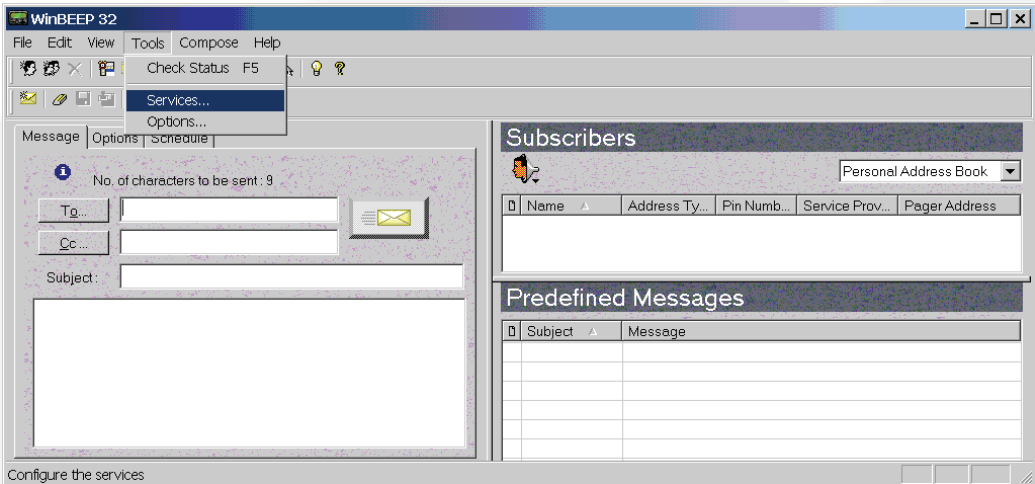

FIGURE 15-3. WINBEEP MAIN WINDOW
Install WinBEEP 32 using the installation instructions provided with the program. Figure 15-3 shows the WinBEEP 32 main window, with the **Tools** menu selected.
1. Launch WinBEEP 32 from the **Programs** menu. Click on the **Tools** menu and select **Services**. Figure 15-3.